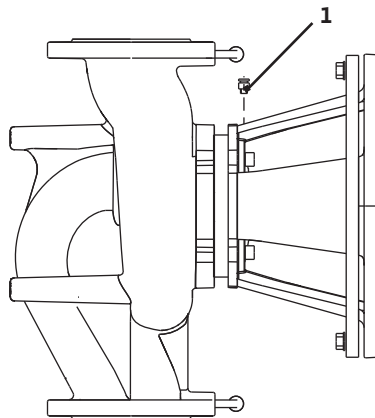

Fig. 16: Bleed valve
- The bleed valve (Fig. 16, Item 1) must always face upwards.